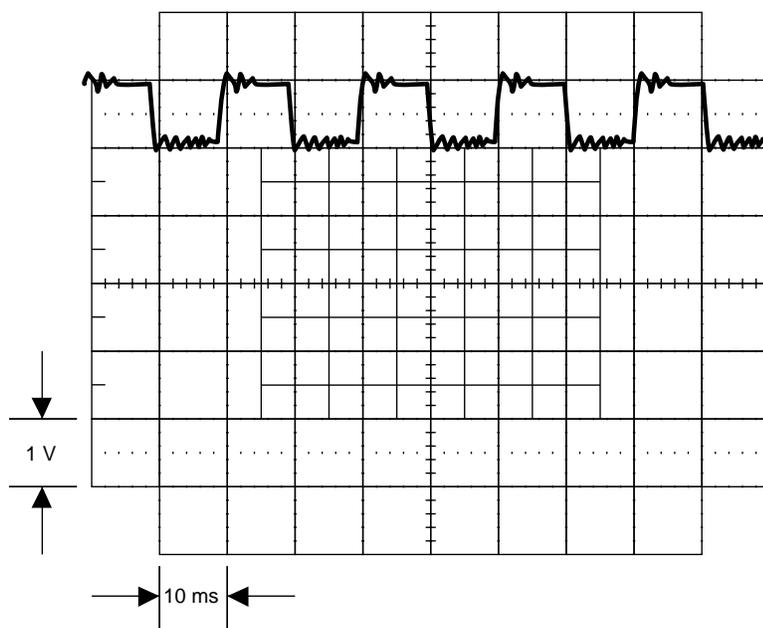

Figure 5-3. Waveform at TP15
4. Check the 4 MHz to 8 MHz feedback signal. Set the 5700A to 1V at 1.2 MHz, operate. Connect an oscilloscope to TP15 and verify it displays a 4.8 MHz signal similar to that shown in Figure 5-3. Use a frequency counter and verify that the frequency of this signal is 4.8 MHz \pm 0.01%. If a failure is detected, continue with step 5; otherwise skip to step 10.